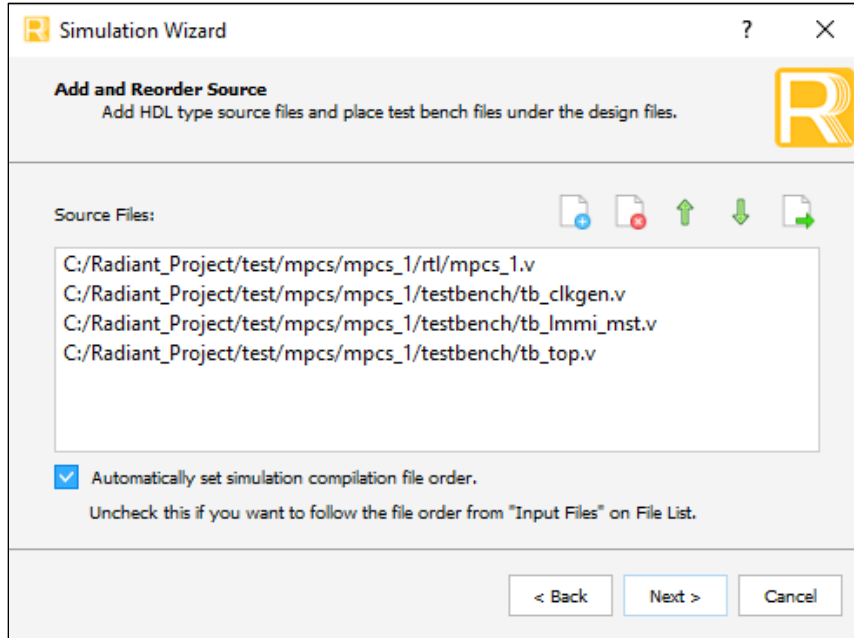

Figure 6.2. Adding and Reordering Source
2. Click **Next** to open the **Add and Reorder Source** window, as shown in Figure 6.2.